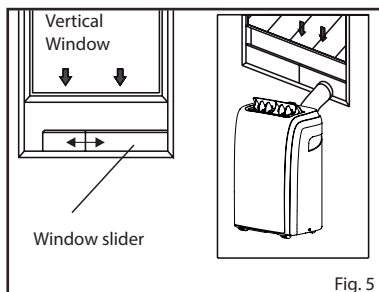

Fig. 5
4. Affix the hose outlet into the window slider kit and seal. (Fig.5 &6).